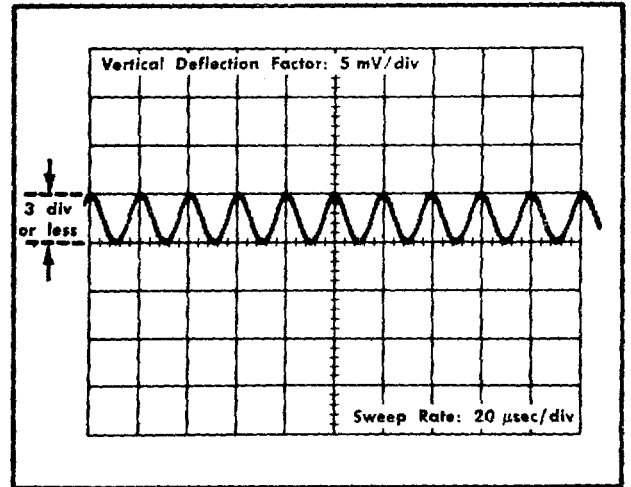

Fig. 5-48. Checking input crosstalk to B side of amplifier when signal is applied to input A.
e. Check that the amplitude of the display is 3 div or less (see Fig. 5-48). This corresponds to the $\leq 5\%$ input crosstalk requirement.